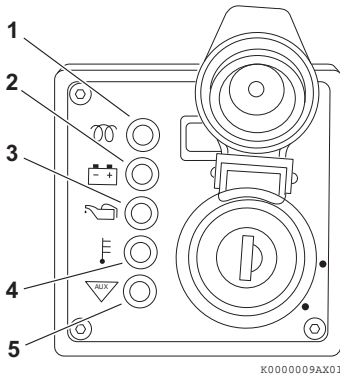
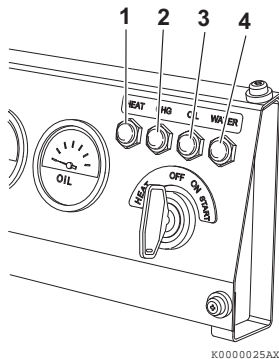
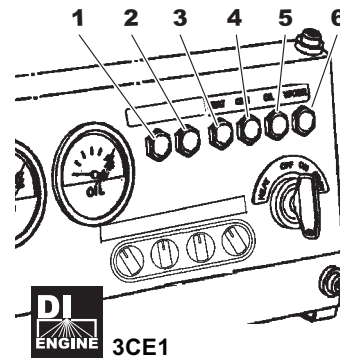

Figure 7
Figure 8
Figure 9
Figure 8 shows a typical indicator arrangement on the operator's console. With the specification of standard glow (preheat), as you turn the key switch to the HEAT position, the HEAT indicator is turned on for 4 seconds, showing that the glow plugs are energized. When the indicator goes off, turn the key switch to START position and start the engine. In the case of 3CE1 (DI), the indicator goes off after 15 seconds.
Figure 7 shows an indicator arrangement with the specification for ON-glow. As you turn the key switch to ON position, the HEAT indicator is turned on for 4 seconds. When the indicator goes off, turn the key switch to the START position and start the engine. In the case of 3CE1 (DI), the indicator goes off after 15 seconds.
Figure 9 shows an operator's console of an electronic controlled engine. The electronic controlled engine has an ON-glow specification. Depending on the water temperature, the heat indicator will turn on for 15 seconds at the longest, and preheats the glow plugs. When the indicator goes off, turn the key switch to the START position and start the engine.
Battery charge (Figure 7, (2)) or (Figure 8, (2)) or (Figure 9, (4)) - Stays on until the engine is running and the alternator is supplying charging current. This indicator does not indicate whether the battery is discharged.
Engine oil pressure (Figure 7, (3)) or (Figure 8, (3)) or (Figure 9, (5)) - Stays on until the engine is running and the oil pressure is within normal limits.
Engine coolant temperature (Figure 7, (4)) or (Figure 8, (4)) or (Figure 9, (6)) - Stays on momentarily. Comes back on if engine overheats.
Auxiliary (Figure 7, (5)) or (Figure 9, (2)) - Stays on momentarily. Used for special applications.
Fault indicator (Figure 9, (1)) (optional) - Illuminates for approx. 2 sec. when the key switch is turned to ON, and stays off while the engine is running. If a fault occurs in the Eco-governor system or during energization of the E-ECU, this indicator will flash in a certain pattern to indicate what fault has occurred. See the troubleshooting section for details.